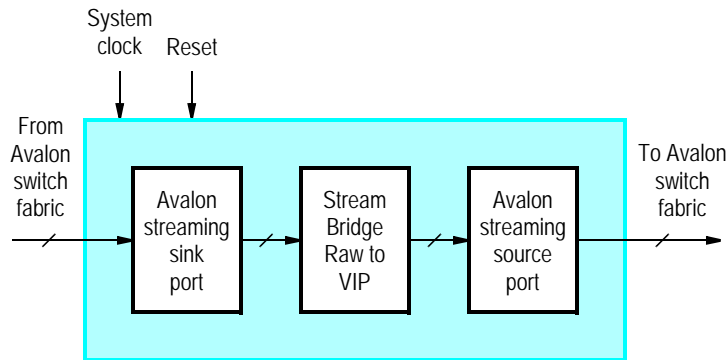

Figure 57. Video-Stream Bridge: Raw to VIP core’s block diagram.
The Raw-to-VIP bridge take an input stream in the University Program (UP) video stream format and converts it to the VIP format. Then, the VIP-formatted data is outputted via the Avalon streaming source interface. Figure 57 shows a block diagram of the core. The UP video stream format is essentially raw video data, as described in Section 2.2.